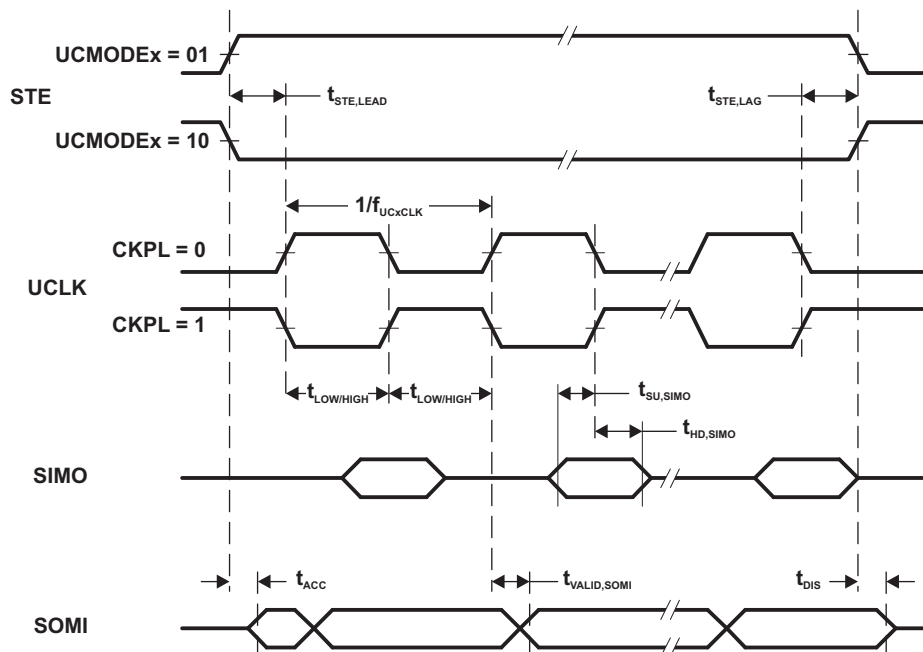
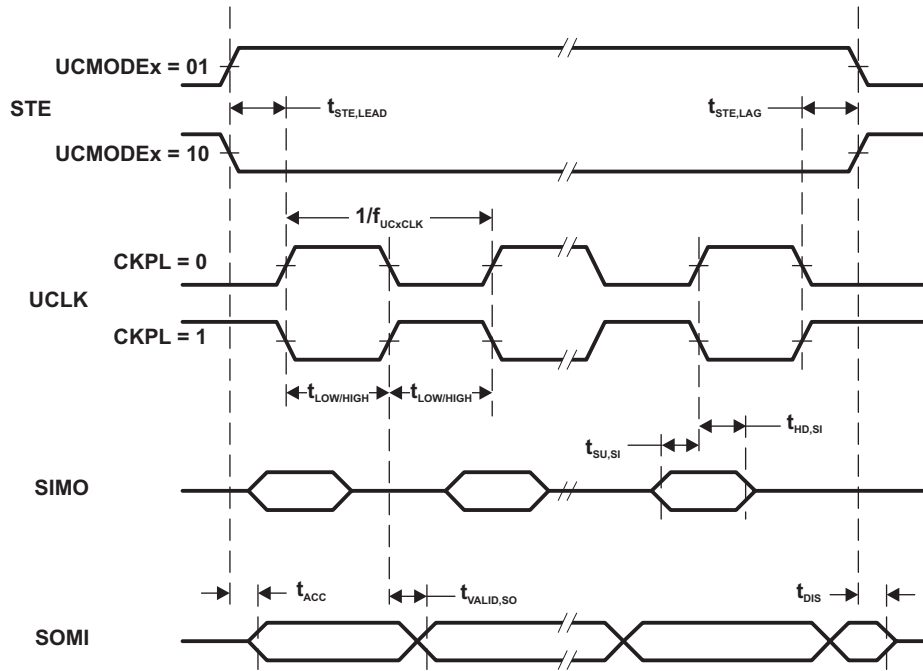

Figure 15. SPI Slave Mode, CKPH = 0
Figure 16. SPI Slave Mode, CKPH = 1
(2) Specifies the time to drive the next valid data to the SIMO output after the output changing UCLK clock edge. See the timing diagrams in Figure 15 and Figure 16.
(3) Specifies how long data on the SIMO output is valid after the output changing UCLK clock edge. Negative values indicate that the data on the SIMO output can become invalid before the output changing clock edge observed on UCLK. See the timing diagrams in Figure 15 and Figure 16.
- (1)  $f_{UCxCLK} = 1/2t_{LO/HI}$  with  $t_{LO/HI} = \max(t_{VALID,MO(Master)} + t_{SU,SI(eUSCI)}, t_{SU,MI(Master)} + t_{VALID,SO(eUSCI)})$ . For the master's parameters  $t_{SU,MI(Master)}$  and  $t_{VALID,MO(Master)}$  refer to the SPI parameters of the attached slave.
- (2) Specifies the time to drive the next valid data to the SOMI output after the output changing UCLK clock edge. Refer to the timing diagrams in Figure 15 and Figure 16.
- (3) Specifies how long data on the SOMI output is valid after the output changing UCLK clock edge. Refer to the timing diagrams in Figure 15 and Figure 16.